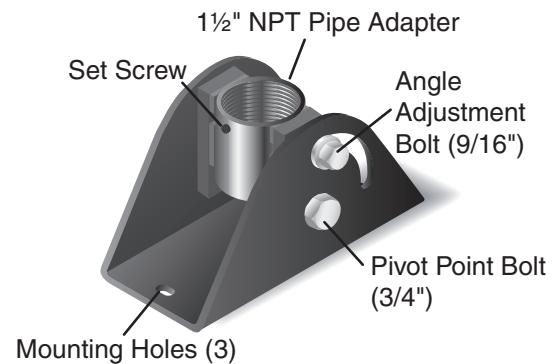

Figure 1. ACMP 100 Features
The features of the ACMP 100 are shown in figure 1. Included in the kit are:
1. Locate a suitable wooden joist at the location chosen for the installation. Mark the position of the three mounting holes (see figure 1) in the center of a joist (minimum size 2 inch by 4 inch).